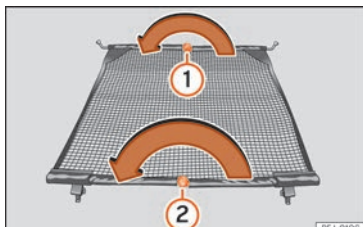

Fig. 136 Folding in the net partition.
- Press on the release button » **Fig. 136 ①** and bend the cross rod in the direction of the arrow with the button pressed.
- Press on the release button » **Fig. 136 ②** and bend the cross rod in the direction of the arrow with the button pressed.